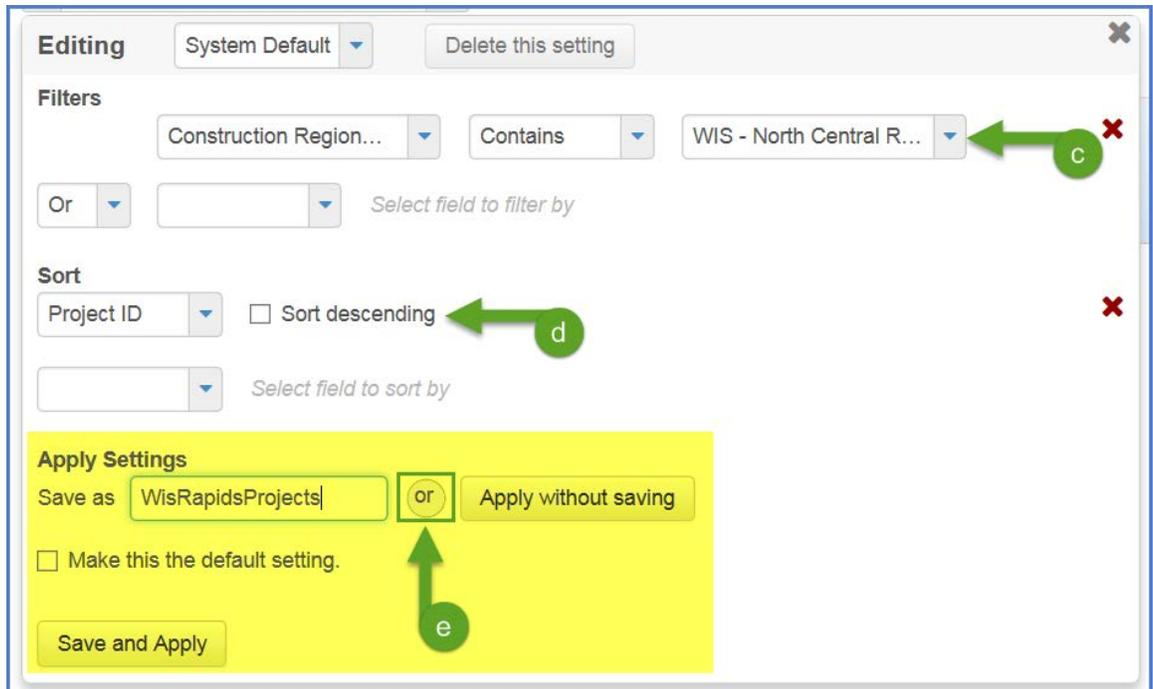

Figure 15
- e. Applying the search (Figure 15):